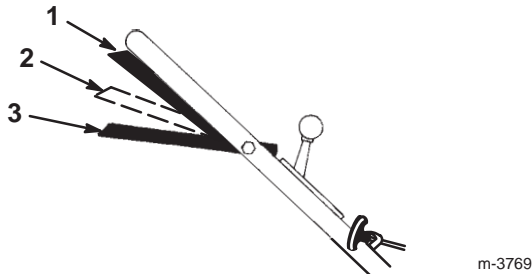

Figure 10
3. Squeeze the control bar against the handle to the **Run/Drive** position (Fig. 10).
Note: Do not shift speeds while squeezing the control bar against the handle in the **Run/Drive** position; this can damage the transmission. Move the control bar to the **Run/Shift** position (Fig. 10) when you change the ground speed.